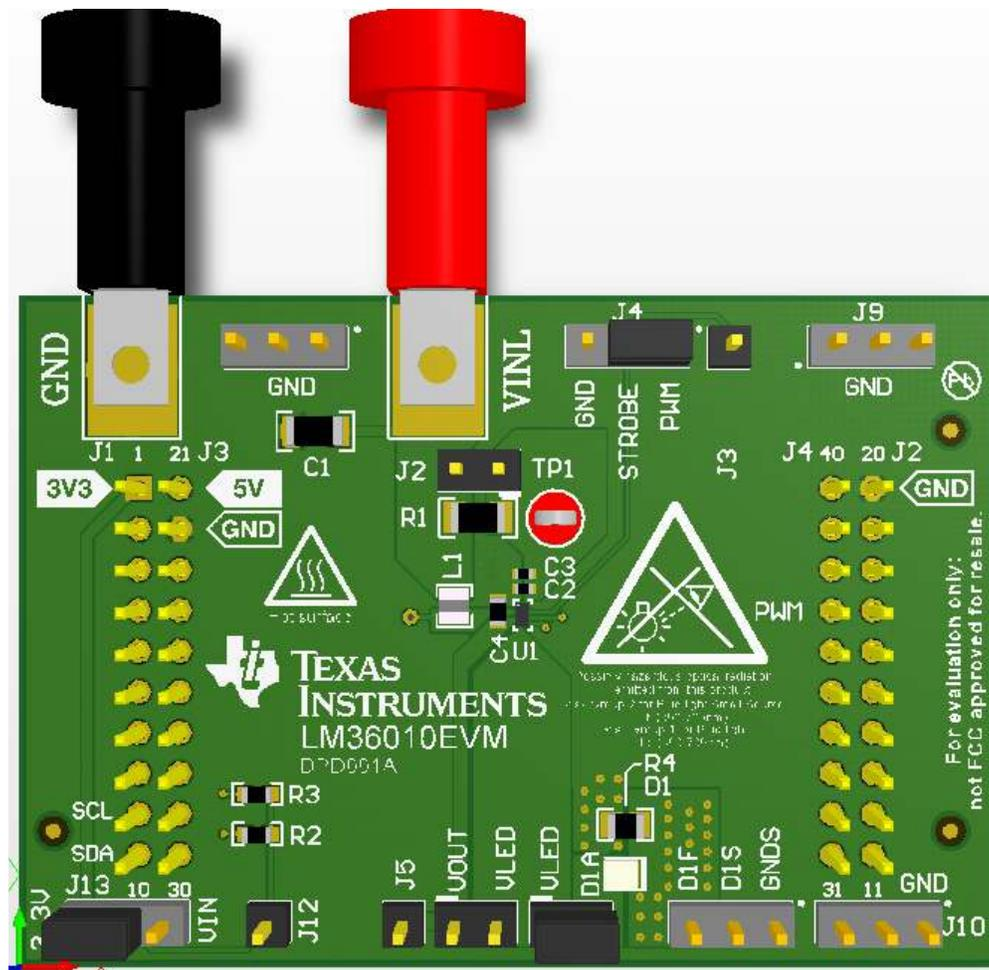

Figure 4. LM36010EVM Jumper Configuration
Configuration of LM36010EVM jumpers is as shown in Figure 4.
1. Verify jumper configuration on the MSP-EXP432P401R LaunchPad and the LM36010EVM as in Figure 7 and Figure 4, respectively.